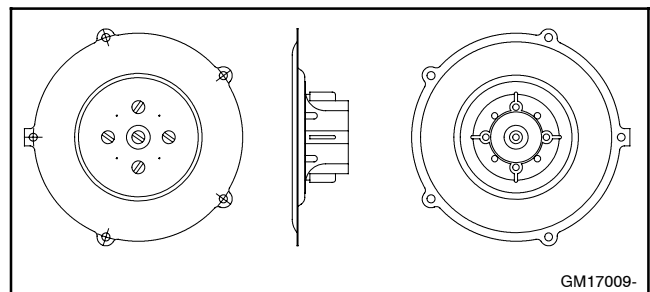

Figure 9-23 Fuel Diaphragm
- b. Remove the gas mixer cover plate and natural gas fuel diaphragm. See Figure 9-23. Save the natural gas fuel diaphragm for possible future conversion back to natural gas.